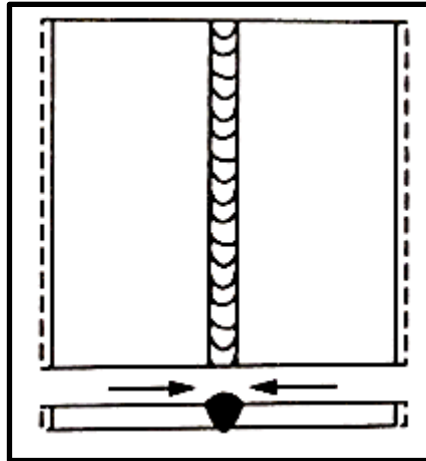

FIGURE 9.3.1
9.3 Study FIGURES 9.3.1 and 9.3.2 below and identify EACH distortion. (1)